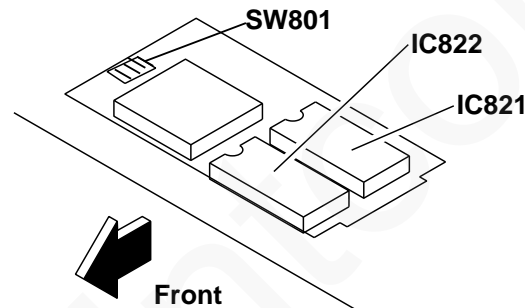

Figure 2. EPROMs and SW801
7. Remove EPROMS IC821 and IC822 (figure 2).
1. Set the switches on SW801 (figure 2) to equal the switches on the removed PWB.
5. Remove EPROMs IC821 and IC822 (Figure 2).